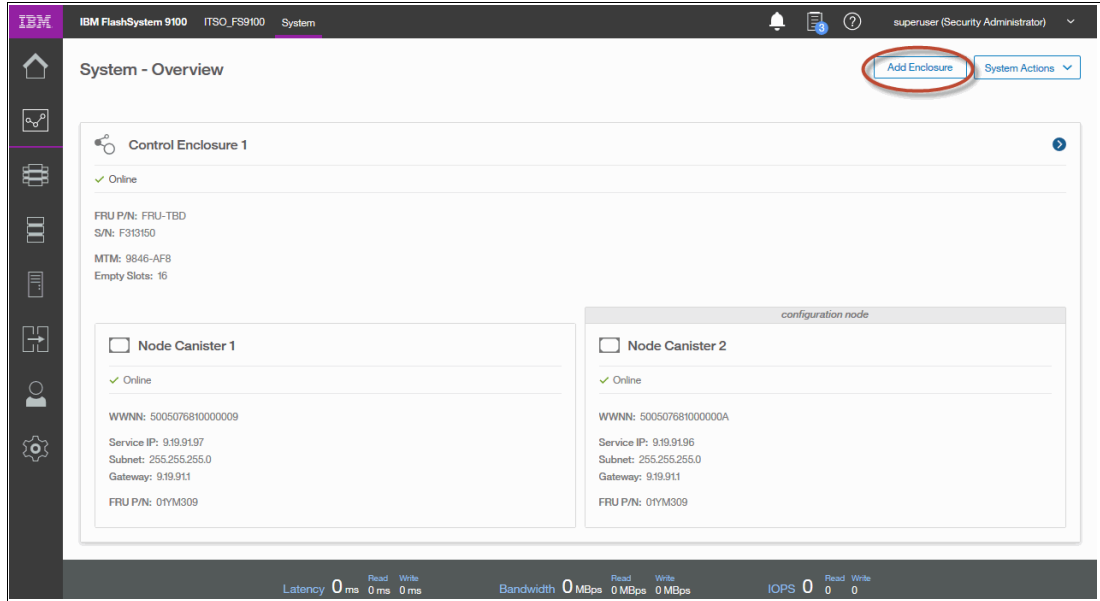

Figure 5-35 Select **Add enclosure**
1. Click **Add Enclosure** to start the wizard, as shown in Figure 5-35.